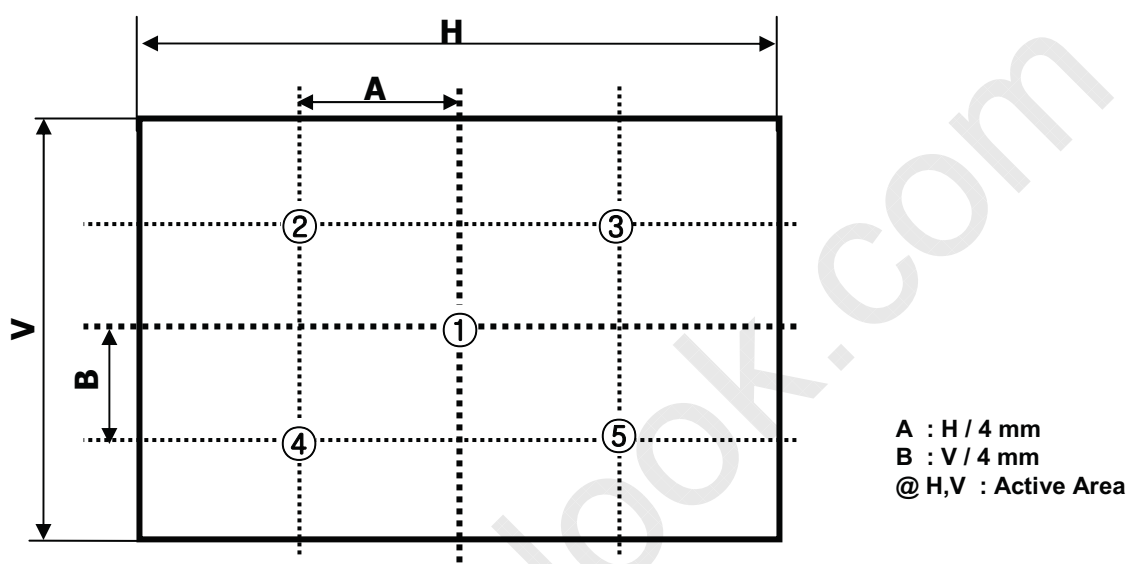

FIG. 2 5 Points for Luminance Measure
2. Surface luminance is determined after the unit has been 'ON' and 60min after lighting the backlight in a dark environment at  $25 \pm 2^\circ\text{C}$ . Surface luminance is the luminance value at center 1-point across the LCD surface 50cm from the surface with all pixels displaying white. For more information see the FIG. 2.
For more information, see the FIG. 2.